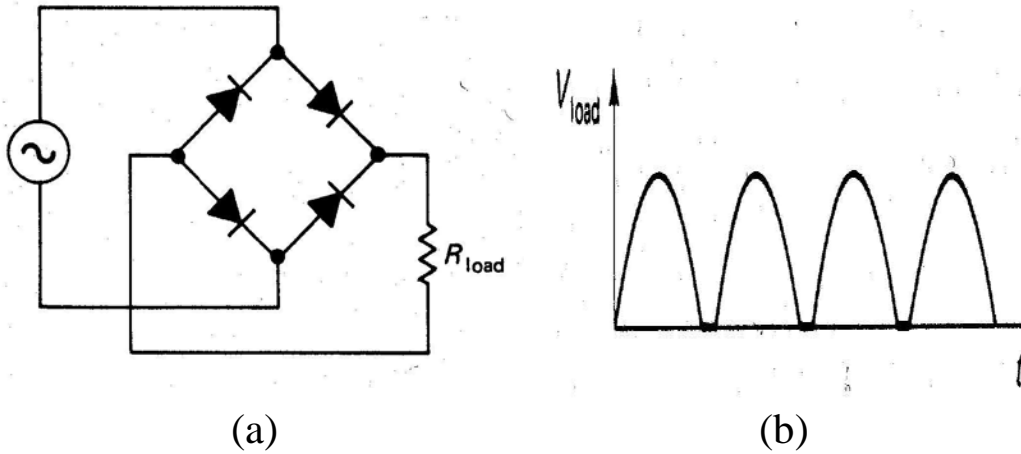
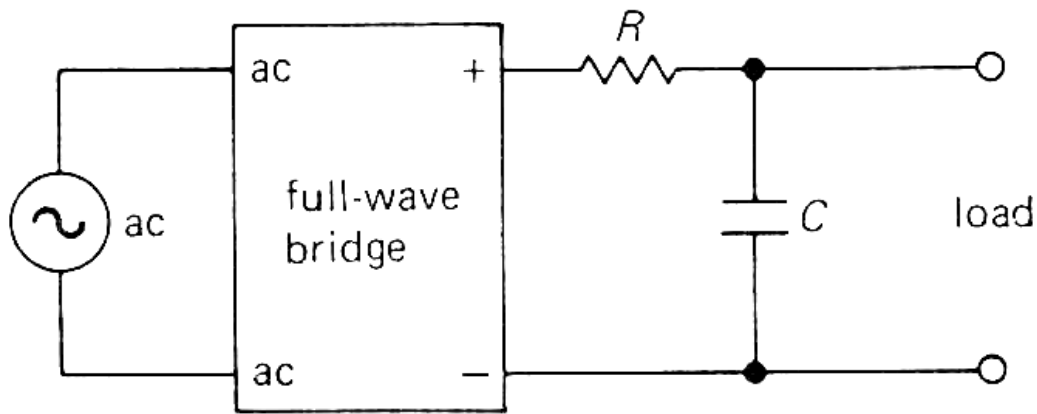

Figure 5: Full-wave bridge rectifier.
Figure 6: Circuit for building a dc power supply. A low-pass filter is added to the rectifier circuit to deliver genuine dc to the load.
Figure 5(a) shows another rectifier circuit, a full-wave bridge. Figure 5(b) shows the voltage across the load resistor R_{load} as a function of time for which the whole input waveform is used.
The gaps at zero voltage occur because of the diodes' forward voltage drop. The rectified waveforms shown in Fig 5(b) are not good for much as they stand. They are dc only in the sense that they do not change polarity. But they still have a lot of "ripple" (periodic variations in voltage about the steady value) that has to be smoothed out in order to generate genuine dc. This we do by adding a low-pass filter (Fig. 6), which we will learn about when we study capacitors. (*Something to look forward to!*)
1. Set up the full wave bridge circuit shown in Fig. 5 using a 1 k Ω load resistor and a 1 kHz sine wave input from the signal generator. Look at the signal both with your scope and send it to the circuit by utilizing a “T” at the function generator output.